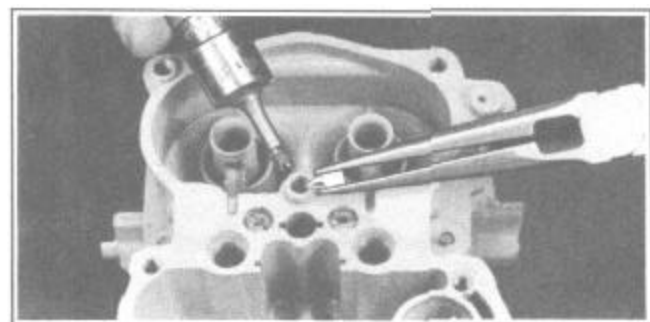

FIGURE 59
8. Remove pump discharge valve retainer plug and check valve, Figure 59.